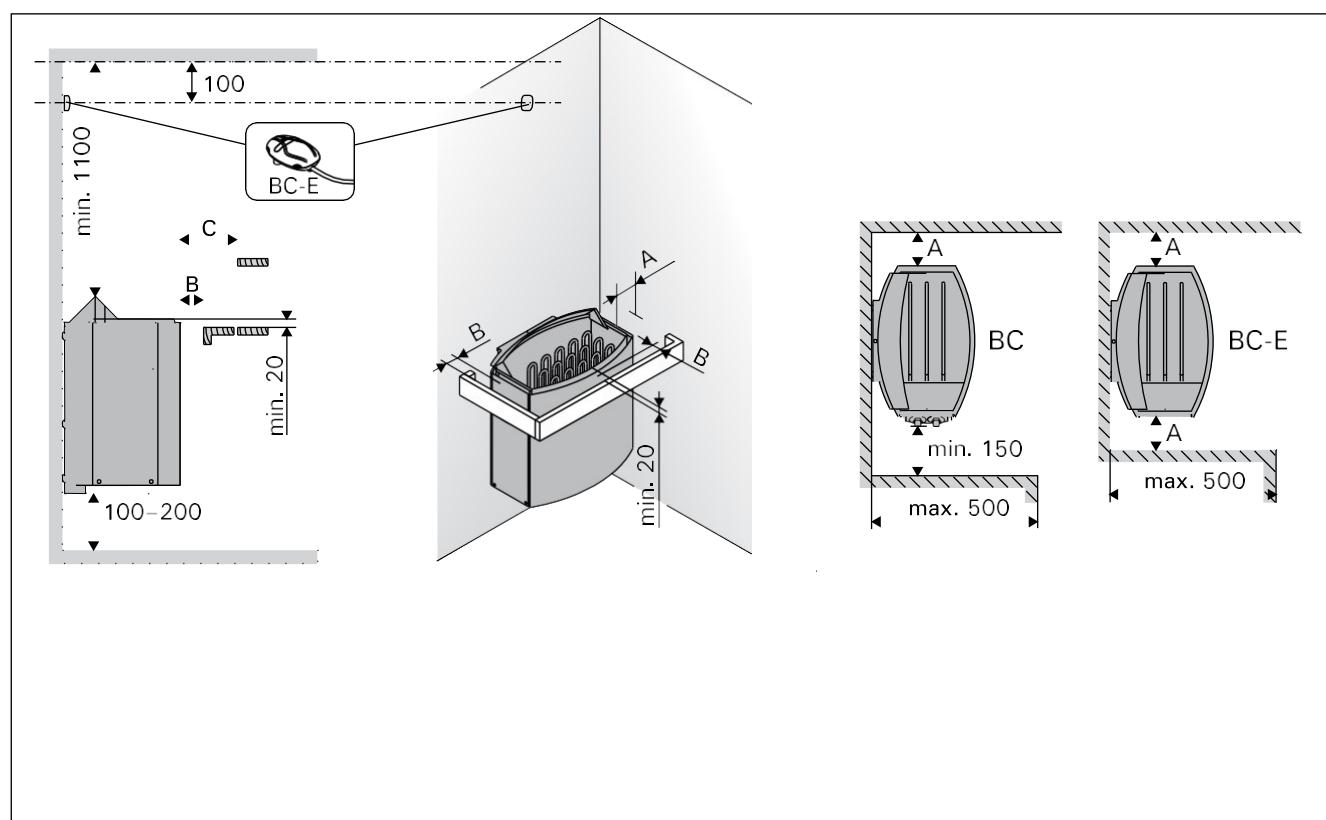

Figure 6. Safety distances (all dimensions in millimeters)
- The location of the heater fulfills the minimum requirements concerning safety distances given in fig. 6 and table 2.
The control unit includes detailed instructions for fastening the unit on the wall. Install the temperature sensor on the wall of the sauna room above the heater. It should be installed on the lateral centre line of the heater, 100 mm downwards from the ceiling. Figure 6.